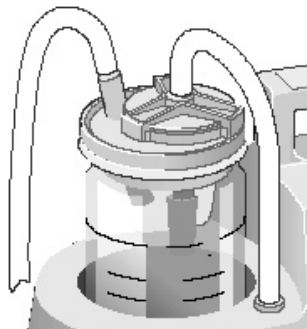

Fig. 5.
- Remove connecting hoses (suction hose and connecting hose on the unit, fig. 5).